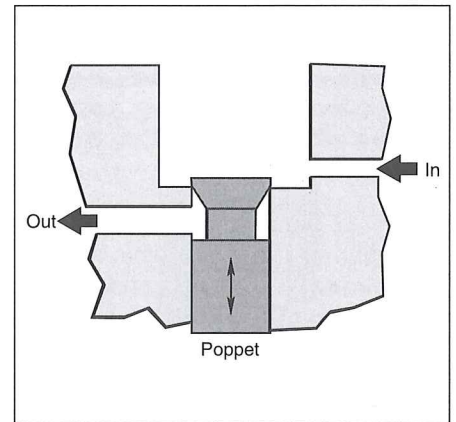

Fig. 9-12 — Poppets seal on the narrow contact area between poppet and seat.
**Poppet mechanisms.** Here, Fig. 9-12, the relative position of the poppet with respect to a seat controls fluid flow. Cartridge valves consist of a poppet, sleeve, and spring that are contained within a machined manifold block. The valves typically are suitable for hefty flows with minimum pressure drop and are relatively insensitive to fluid-borne contaminants.